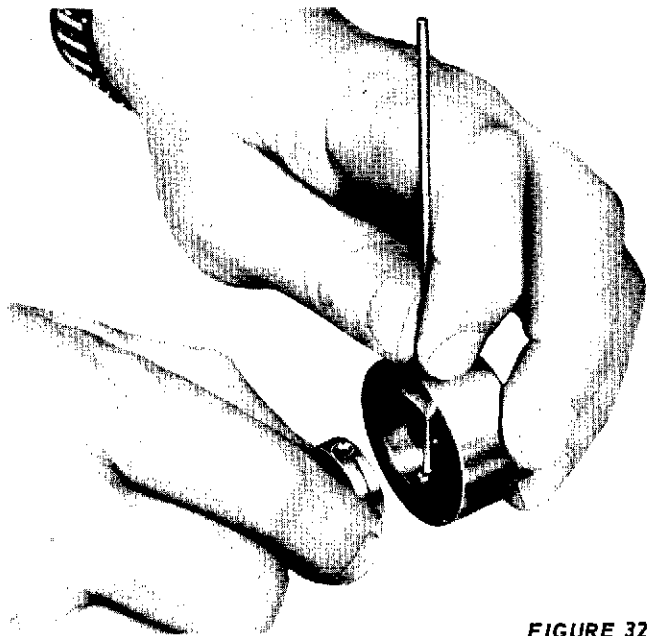

FIGURE 32
b. Replacing the take-up clutch assembly can be simplified by placing the ball and spring in position in the clutch; then, with a punch, depress the ball as shown in figure 32 and insert the small hub. Place the unit on the shaft, and tighten the setscrews through the hole in the clutch.